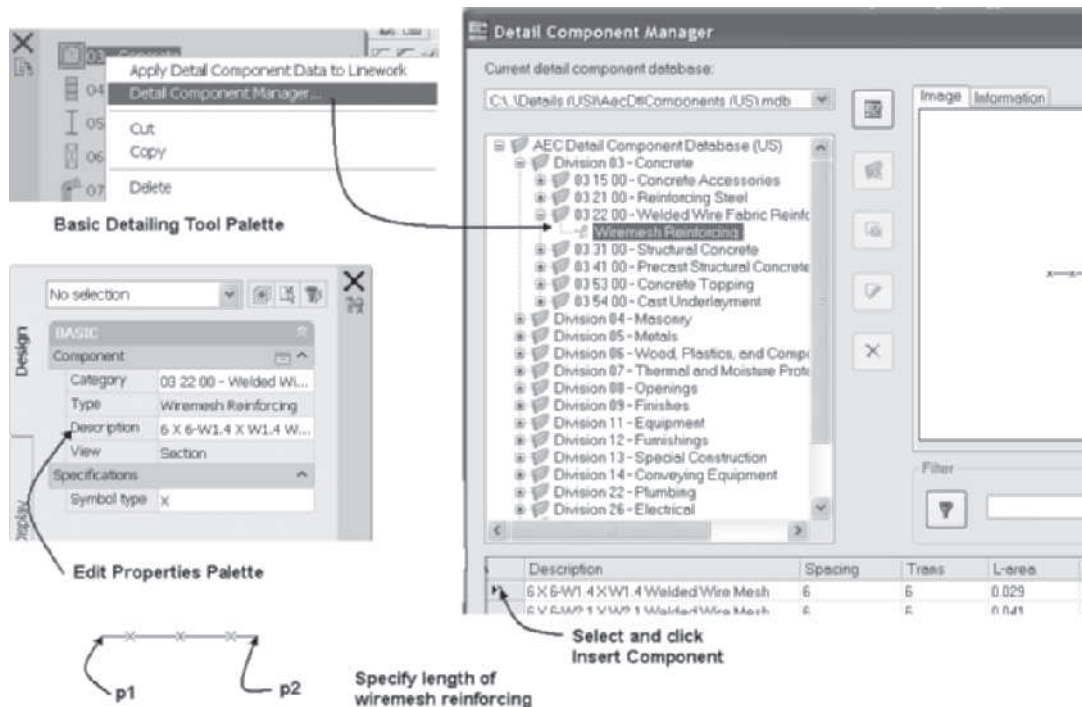

FIGURE 12.45 Insert welded wire fabric from the Detail Component Manager
A detail can also consist of a collection of repeating entities placed based on your response to the workspace prompts. A detail for welded wire fabric consists of a series of “X”s placed along a line as shown in Figure 12.45. To place this detail, open the Detail Component Manager to 03 22 00 Welded Wire Fabric Reinforcing > Wiremesh Reinforcing [E-In Situ Concrete/Large Precast Concrete > E30 Reinforcement For In Situ Concrete > Wiremesh Reinforcing] and drag the tool onto a tool palette or into the workspace. Edit the Properties palette to place the detail as described in the following steps.
1. From the **Basic** tool palette of the **Detailing** palette set, select **03-Concrete**, right-click, and select **Detail Component Manager**. Expand the Division 3 in the right pane to 03 22 00 Welded Wire Fabric Reinforcing > Wiremesh Reinforcing as shown in Figure 12.45. **Metric only:** The location is [E-In Situ Concrete/Large Precast Concrete > E30 Reinforcement For In Situ Concrete > Wiremesh Reinforcing].
Start point: (Select the start point of the wire fabric at p1 as shown in Figure 12.45.)
Endpoint: (Select the endpoint of the wire fabric at p2 as shown in Figure 12.45.)